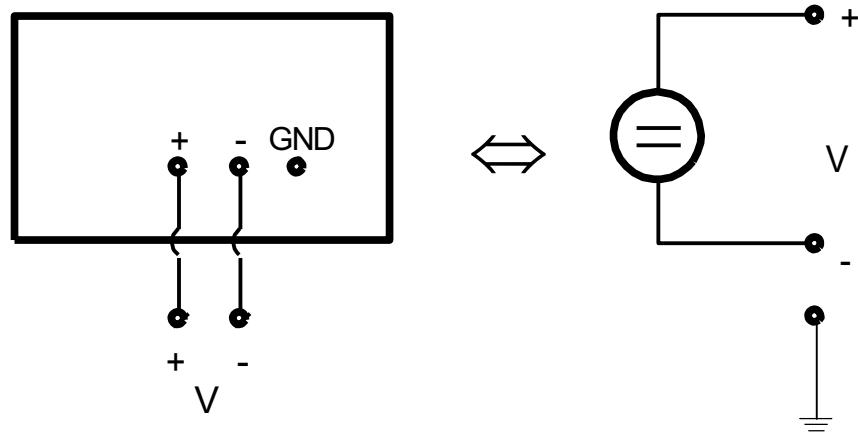

Fig. A-4
- DC power supplies have one or more sets of two terminals labeled (+) and (-), between which the output voltage will appear. Another terminal is labeled (GND), as indicated schematically in Fig. A-4, and is isolated from the (+) and (-) terminals. The GND terminal is internally connected to the ground pin on the power plug.